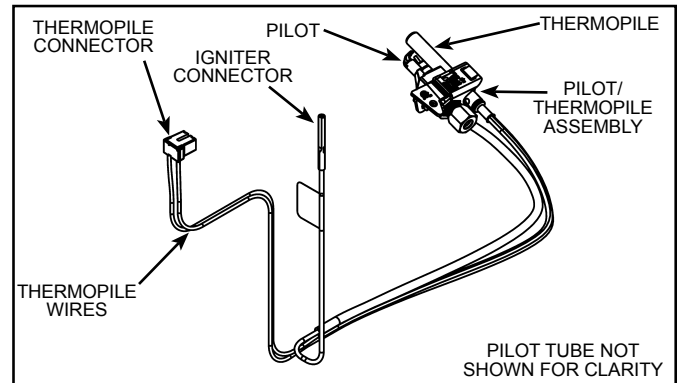

Figure 37
- Lift the pilot/thermopile assembly (including the igniter wire) from the manifold assembly (see Figure 37).